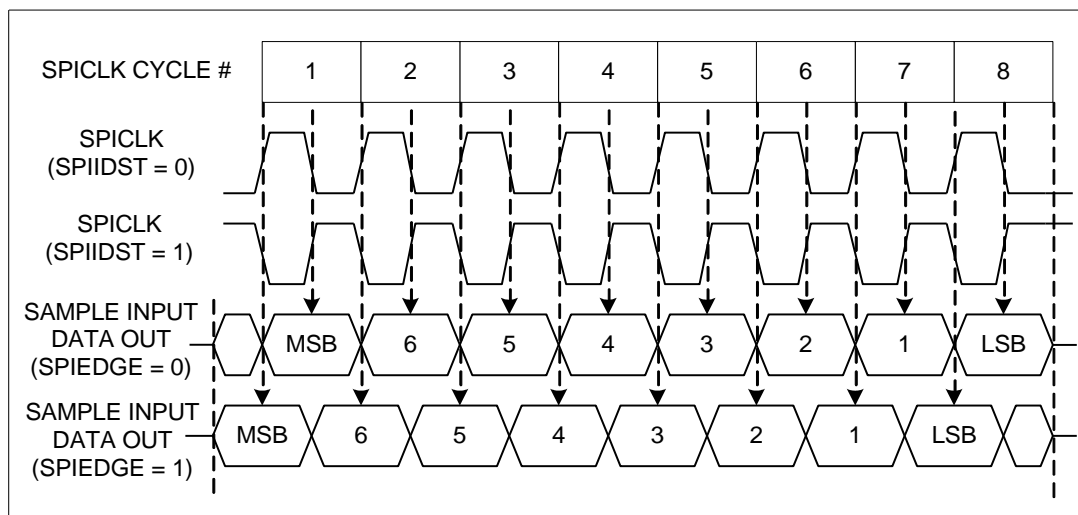

Figure 9-1 SPI timing
5. Select one of the four timing mode (refer to Figure 9-1)
5. Select one of the four timing modes (refer to Figure 9-1)